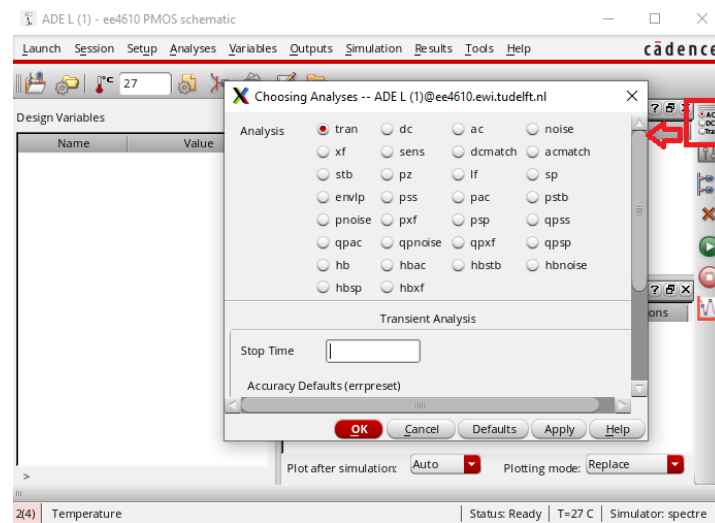

Figure 11: Simulation setup 1
- Start *Launch < ADEL*, and click the button in Fig. 11 to choose simulation type. In assignment 1, please select the first one "tran". Set the time and click 'conservative'.